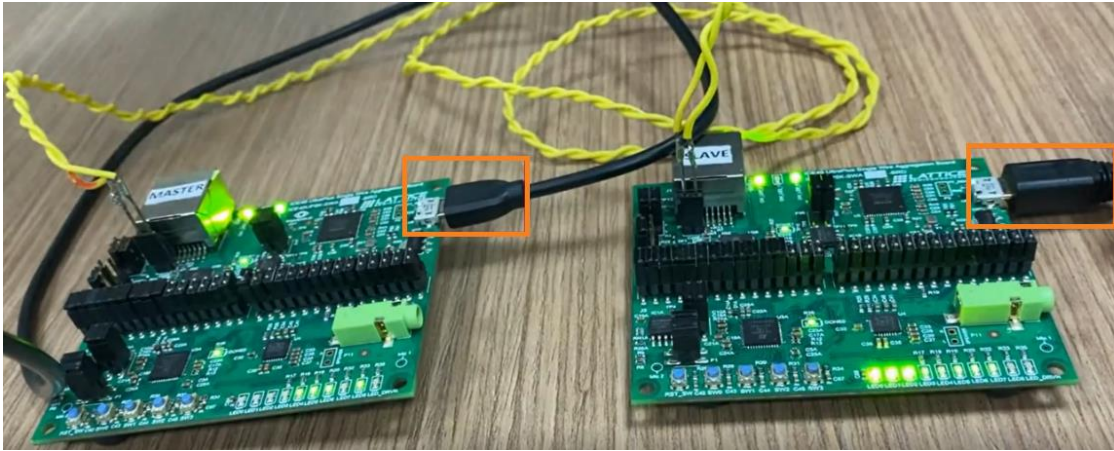

Figure 8.13. Connecting a USB Power Cable
8. Power-up the SWA board by connecting a USB power cable, as shown in Figure 8.13.